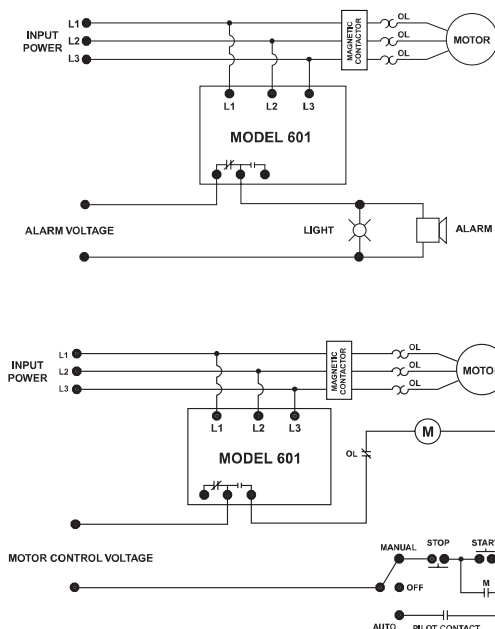

Figure No. 1: Typical Wiring Diagrams
2. Connect the three-phase power from the line side of the contactor to "L1", "L2" and "L3". First carefully strip and insert a #12 - #18 AWG wire into the top of the terminal marked L1 and tighten the screw on the front of the relay. Then, connect the other end of the wire to the line side of the contactor. Repeat these two steps for L2 and L3. (see Figure No. 1).
3. Connect the output relay to the circuitry to be controlled (see Figure No. 1). To control a motor, connect the normally open contact in series with the magnetic coil of the motor starter as shown. To sound an alarm, connect the normally closed contact in series with the alarm.